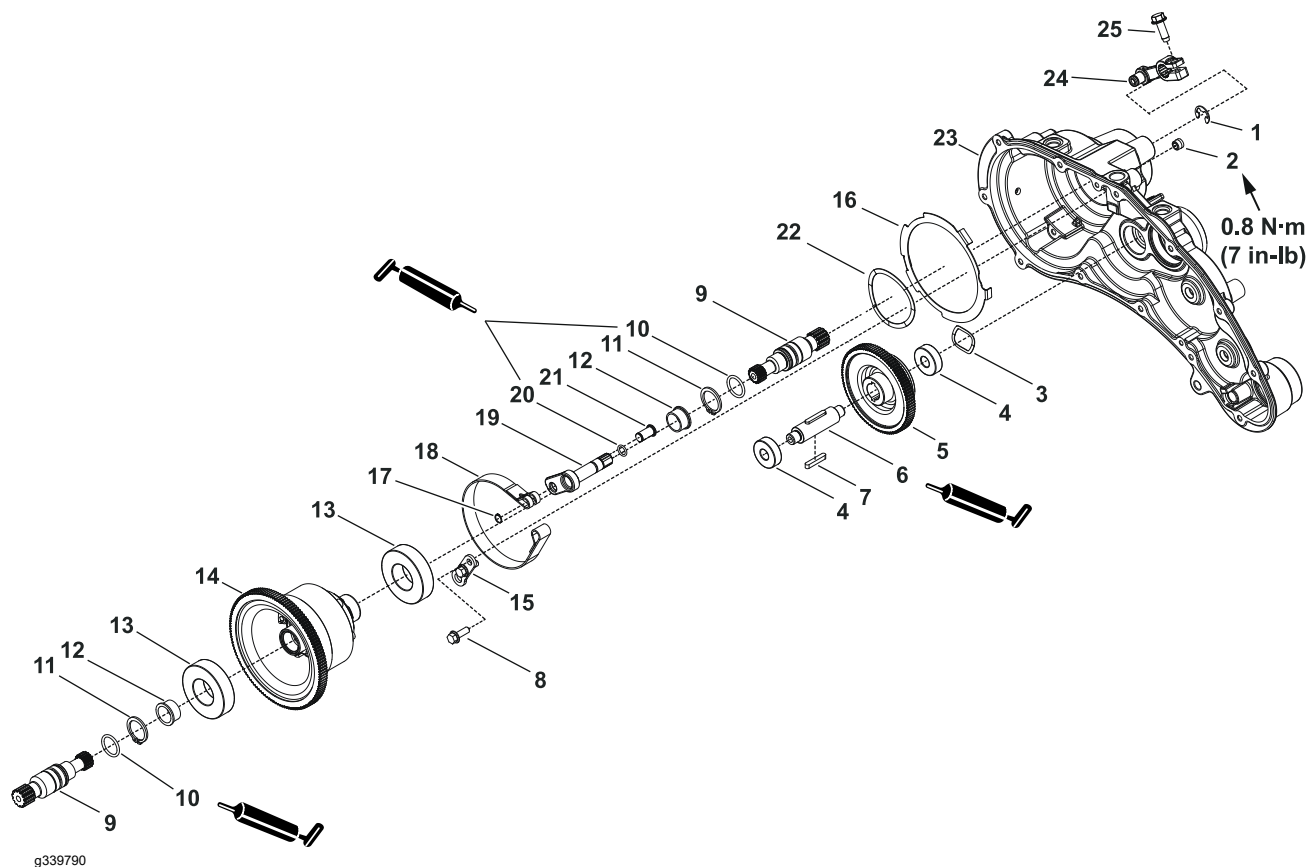

Figure 25
4. Remove the neutral spur gear assembly (item 5 in Figure 25) and wave washer (3) from the transmission housing assembly (23).
5. Use a press to remove the ball bearings (4) from the neutral slider shaft (6). Remove the square keys (7) from the neutral slider shaft (6). Discard the ball bearings.
6. Remove the differential assembly (14) from the transmission housing assembly (23).
7. Remove the 2 differential shafts (9) from the differential housing (14). Remove the retaining rings (11) and O-rings (10) from the differential shafts (9). Discard the O-rings.
8. Use a press to remove the 2 ball bearings (13) and 2 flange bearings (12) from the differential assembly (14). Discard the ball bearings (13).
24. Assemble the brake lever assembly (item 19 in Figure 25) as follows:
- A. Apply a coat of grease to the O-ring (item 20 in Figure 25) and slide the O-ring onto the brake lever.
- B. Place the brake lever (item 19 in Figure 25) onto the brake band (18) and secure with the brake clevis pin (21) and retaining ring (17).
25. Slide and install the brake lever assembly (item 19 in Figure 25) into the transmission housing assembly (23).
26. If removed, insert the brake mount pin through brake band into the transmission housing assembly (item 23 in Figure 25), place the flat wire spring (22) and brake plate retainer (16) onto the transmission housing assembly.
27. Place the retainer plate pin (item 15 in Figure 25) onto the transmission housing assembly (23) and secure it with the 2 bolts (8).
28. Slide and install the external retaining ring (item 1 in Figure 25), cable brake lever (24) onto the brake lever (19) and secure it with the bolt (25).
29. If disassembled, assemble the differential assembly (item 14 in Figure 25); refer to Assembly of Differential Assembly \(page 4–34\).
30. Pack the differential assembly (item 14 in Figure 25) with grease and use a press to install the 2 ball bearing (13) and 2 flange bearings (12) into the differential assembly.
31. Apply a coat of grease to the 2 O-rings (item 10 in Figure 25) and slide the O-rings to the differential shafts (9). Install the retaining rings (11) onto the differential shaft (9).
32. Insert the 2 differential shafts (item 9 in Figure 25) into the differential housing (14).